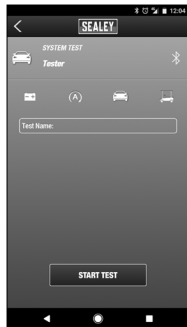

fig.24
- 7.4.2. Press "START TEST" to begin testing. (fig.24)